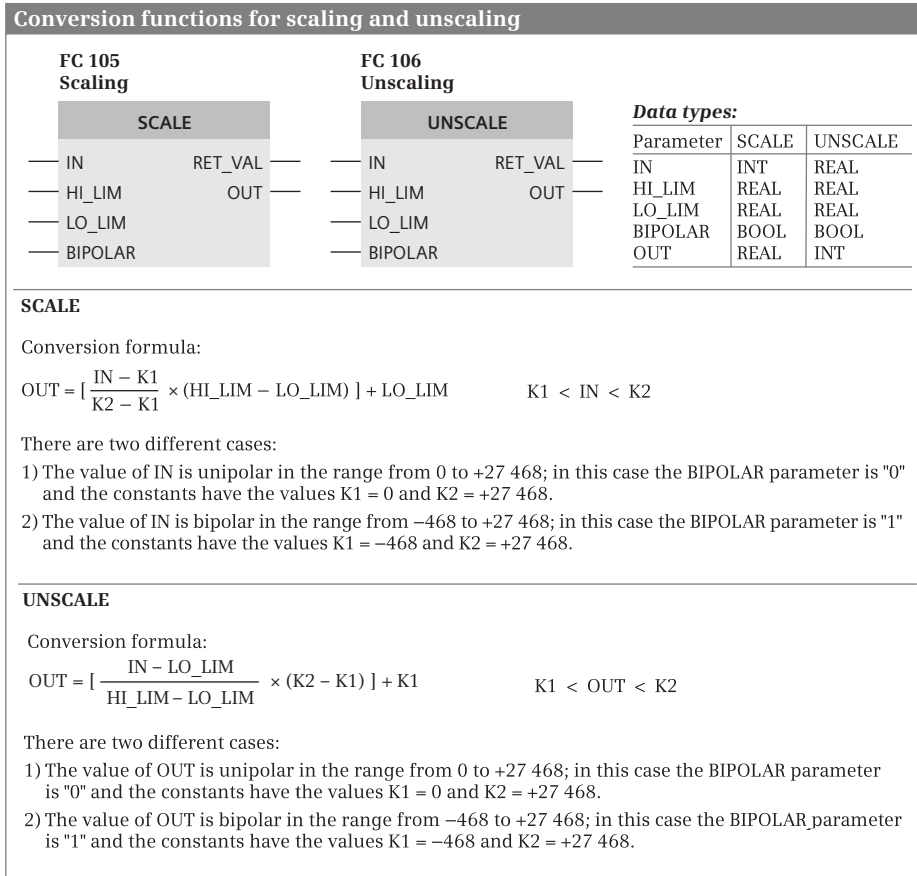

Fig. 13.16 Graphic representation of the SCALE and UNSCALE functions
SCALE and UNSCALE are loadable standard functions (FC). They are represented as EN/ENO boxes in the case of LAD and FBD and as block calls with RET_VAL as the function value in the case of STL and SCL. The graphic representation of the functions is shown in Fig. 13.16.
If the value at IN is greater than 27 648, the upper limit is output and an error signaled. If the value at IN is less than K1 (see Fig. 13.16), the lower limit is output and an error signaled. If the lower limit is greater than the upper limit, the result is scaled inversely proportional to the input value.
If the value at IN is greater than the value of the upper limit HI_LIM, the value of the constant K2 is output and an error signaled. If the value at IN is less than the lower limit LO_LIM, the value K1 (see Fig. 13.16) is output and an error signaled.